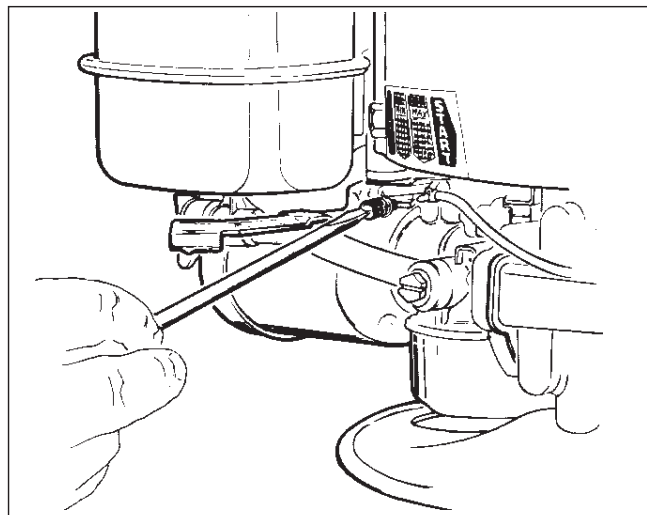

Fig. 5
- Turn the screw in an anti-clockwise position to decrease the speed. (Fig 5).